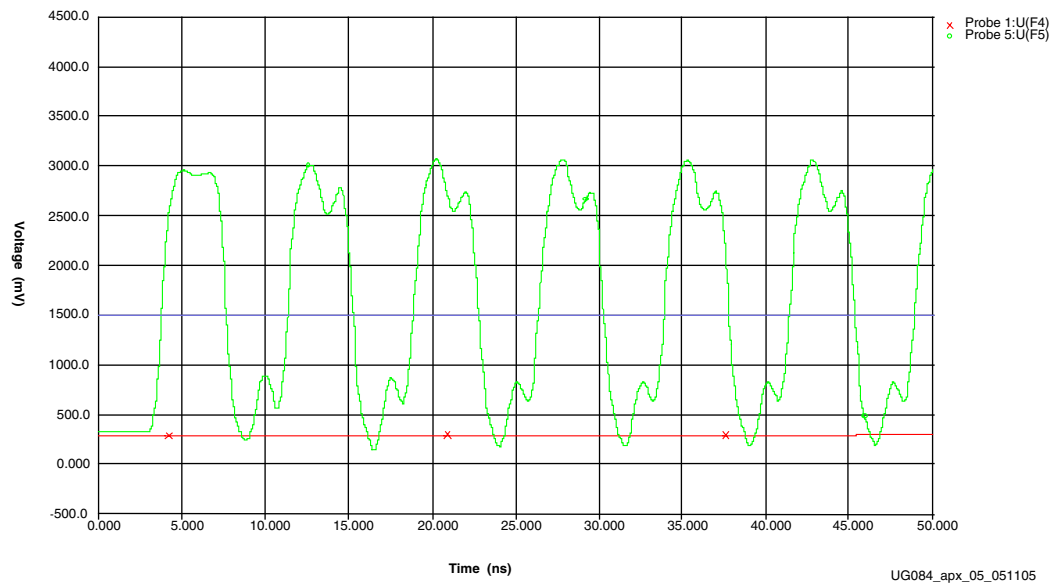

Figure A-5: Bottom Jumper is a Transmission Line (Hard Routed through the Net)
- Figure A-5, Bottom Jumper is a Transmission Line (Hard Routed through the Net)
In Figure A-5, the waveform shows destination pin U10.D2.